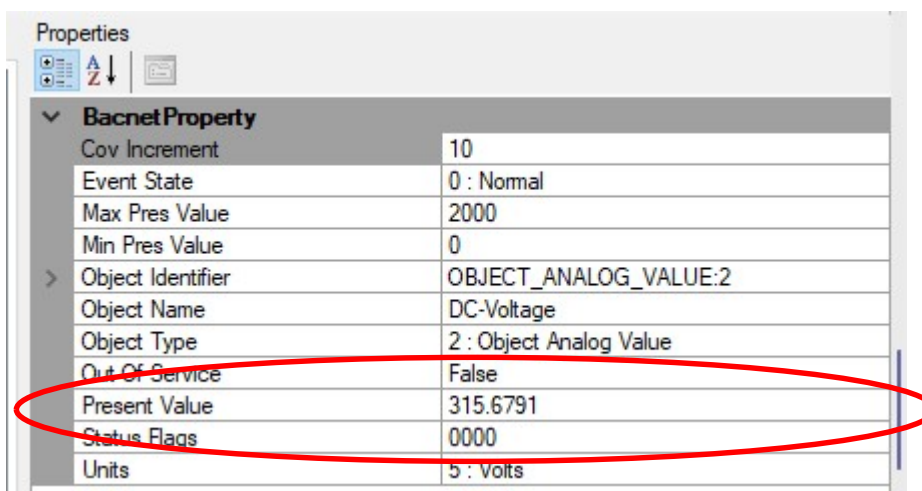

Figure D5
Steps 12 - 13 references Figure D5
13. As can be seen in Figure D5 in the red oval the *Present Value*, closely matches drive's DC bus voltage parameter 01.11.